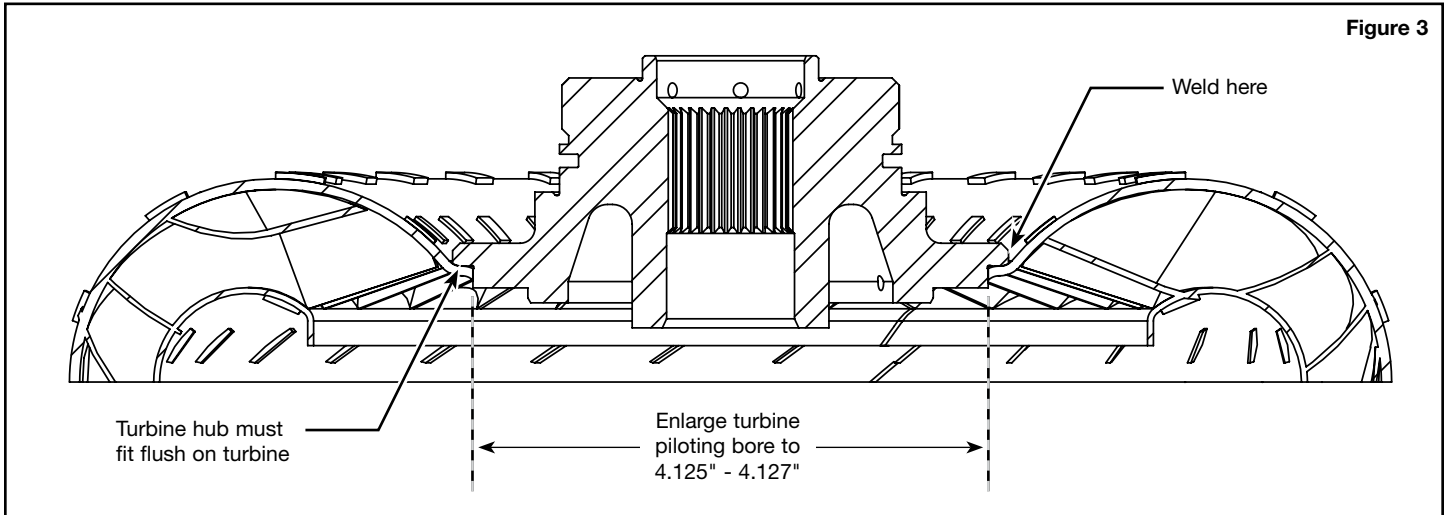

Figure 3
- b. Turn the inside of the turbine to 4.125" - 4.127" (**Figure 3**).